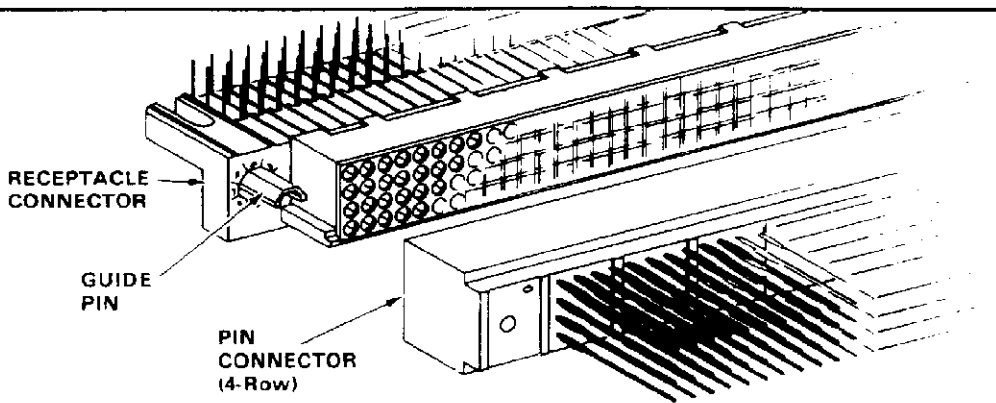

Fig. 1
This instruction sheet (IS) covers the contacts, accessories, mounting procedures, and printed circuit (pc) board layout dimensions recommended for the AMP-HDI connectors listed in Figure 1.
2. DESCRIPTION (Figure 1)